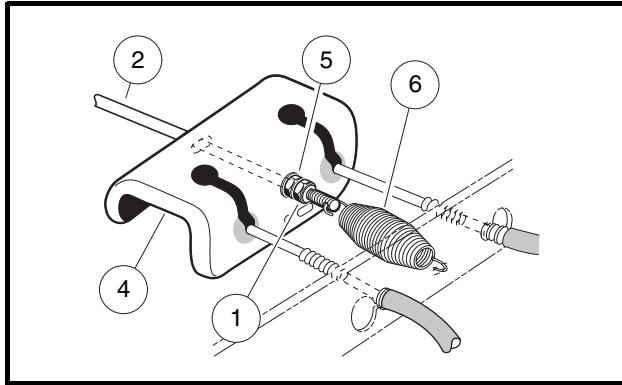

Figure 6-27 Rear Equalizer Adjustment
- 1.1. To provide slack in the brake cables, loosen the equalizer retaining nuts (1 and 5) on the equalizer rod (2) (Figure 6-27, Page 6-13).
- 2.2. Tighten the jam nut (5) on the rear equalizer rod (2) clockwise to 35 in-lb (4 N·m) (**Figure 6-27, Page 6-13**).
- 2.5. Hold the jam nut (5) on the rear equalizer rod (2) in place with a wrench and tighten the lock nut (1) to 13 ft-lb (17.6 N·m) (**Figure 6-27, Page 6-13**). **See following CAUTION.**
- If the brake pedal return spring (6) was disconnected while equalizing the brake cables, be sure to reconnect it before proceeding (**Figure 6-27, Page 6-13**).
2. Release park brake and loosen equalizer retaining nuts (1 and 5) on equalizer rod (2) to slightly loosen brake cable (**Figure 6-27, Page 6-13**).